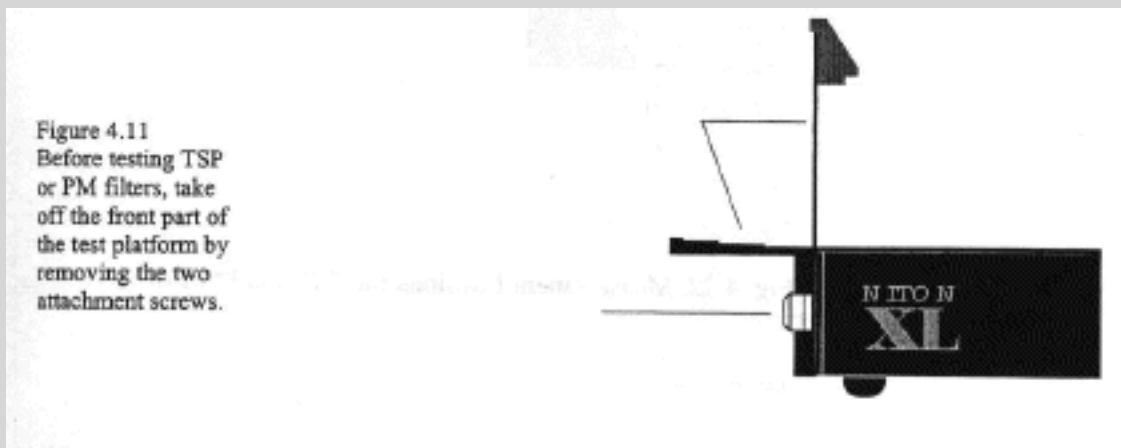

Figure 4.11
2. Remove the front end of the filter test platform (**Figure 4.11**).